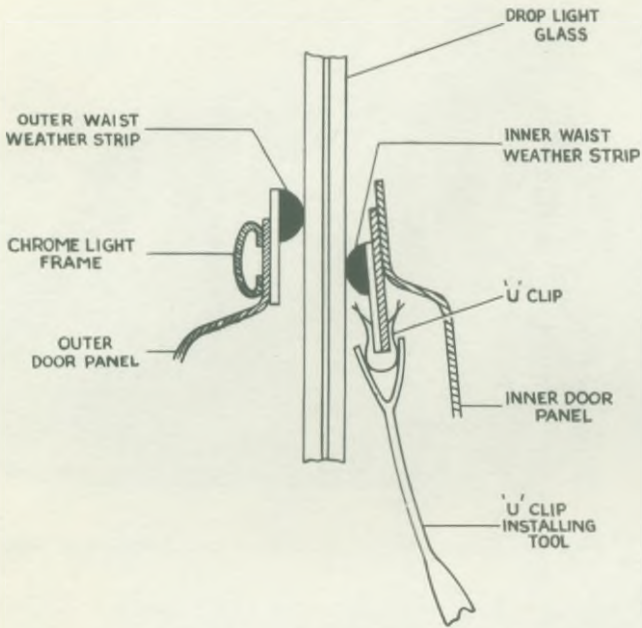
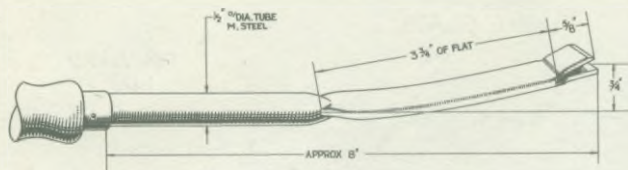
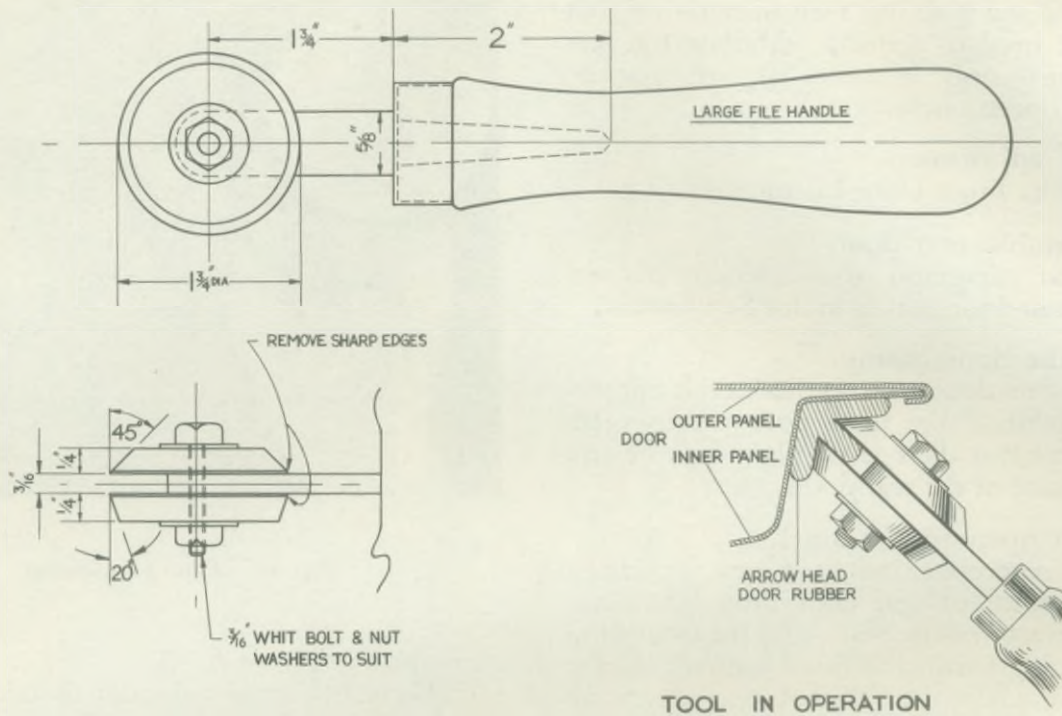

Fig. 7. Section through door body
Fig. 9. Details for manufacture of "U" clip inserting tool. See under "Re-assembly of front door"
Fig. 15. Details for manufacture of "squeegee" for securing door sealing rubbers
6. The drop light may now be lowered into the bottom of the door body whilst the inner and outer waist weather strips are removed. The bifurcations should be opened carefully when releasing the outer weather strip to ensure refit. The inner weather strip is secured to a waist rail, which is spot welded to the inner door panel by four spring "U" clips. (See Fig. 7.)
The dismantling procedure should be reversed and the sequence maintained for ease of re-assembly. If this is done, it will be possible to fit the "U" clips, securing the inner weather strip, quite easily, by hand. However, if the drop light has already been fitted into its operating position (and not left, as is advised at this stage, in the base of the door body), it will be necessary to use the clip inserting tool (Fig. 9) as shown in Fig. 7.
9. The inner weather strip may now be removed, it being held in position by spring "U" clips, similar to the front door (see Fig. 7).
"squeegee" tool (details for manufacture of which are shown in Fig. 15) is very helpful to assist in getting the rubber to adhere properly, as well as being correctly positioned in the corner of the door frame. However, the Standard Motor Co. Ltd. is not in a position to accept orders for this tool, or that shown in Fig. 9.